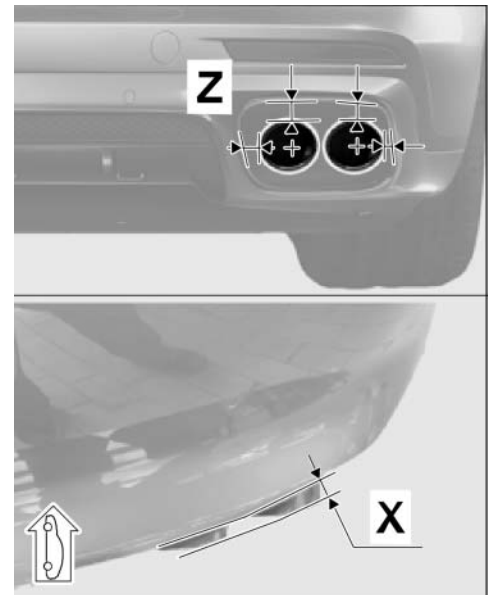

Figure 28
- 3.6.2 Check that the gap = "dimension Z" between the new sports tailpipes and exhaust system cover (rear bumper – left and right side of vehicle ⇒ *Figure 28-Z-*) is symmetrically constant.
- 3.6.3 Check that the sports tailpipes have equal projection = "dimension X" with respect to the rear body panel (left and right side of vehicle ⇒ *Figure 28-X-*).